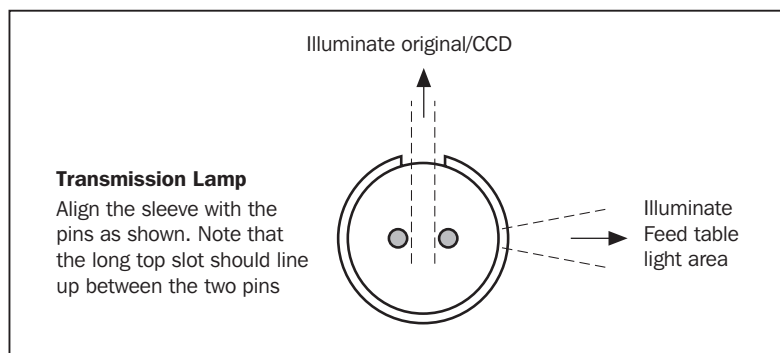

Figure 5: Light tube sleeve alignment as seen from the left side of the scanner
Sometimes the sleeve is glued into place when the scanner is first shipped from the factory, but when you replace a light tube, the sleeve will not be glued; it will be tight so that it can not slip freely, but you will be able to rotate it manually if you try. The correct orientation of the sleeve is shown in Figure 5.
7. Install a new light tube following the reverse of the procedure you used when removing it. Make sure the sleeve is aligned correctly with the scanner as shown in Figure 5. Rotate the light tube and/or adjust the sleeve as necessary.